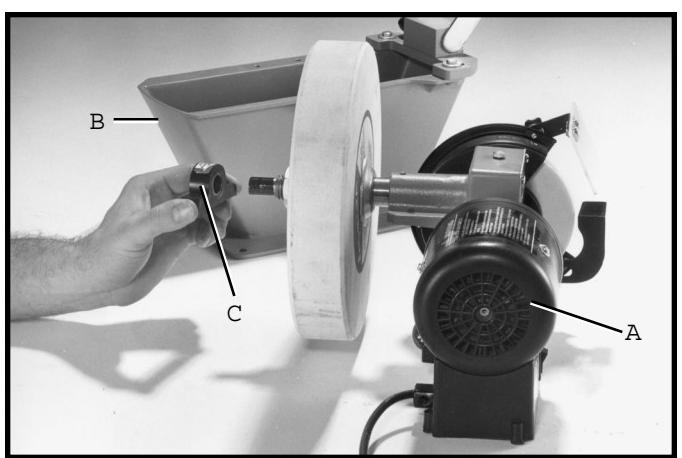

Fig. 20
Lift the complete motor assembly (A) Fig. 20, off the base casting (B). Remove bearing block (C) from end of shaft to loosen and remove nut (D). **IMPORTANT: WHEN INSTALLING THE NEW WHEEL, DO NOT OVERTIGHTEN THE ARBOR NUT (D).**